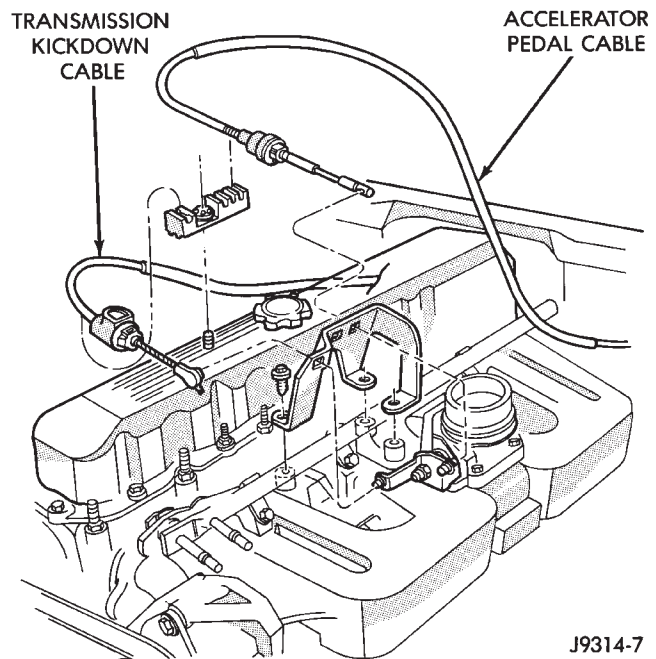

Fig. 41 Throttle Cable Routing—4.0L Engine
(4) 4.0L Engine: Remove cable from clip on engine valve cover (Fig. 41).